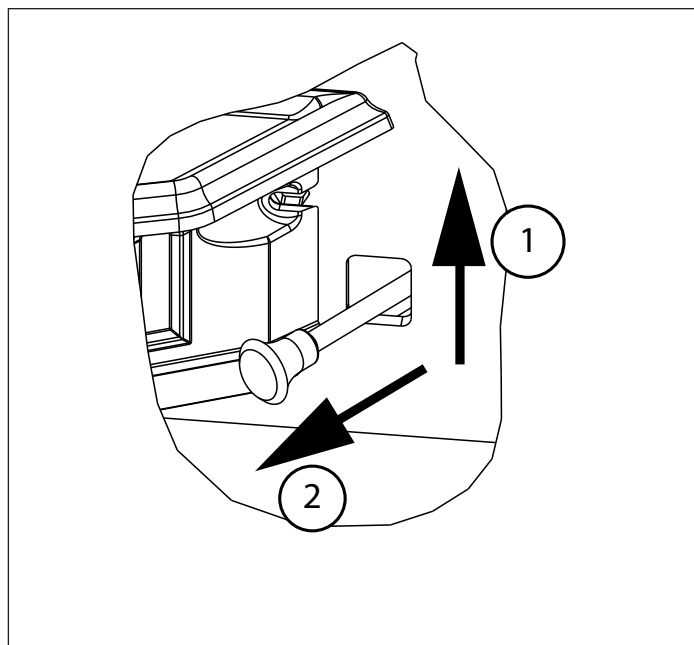

Figure 11.2 Manual Timer Over-Ride
If you need to shut the ACC system off before it shuts itself off after 25 minutes (i.e. overfire situation), lift up on the Start-up Air Control (1) and pull out from the appliance (2). **Figure 11.2.**